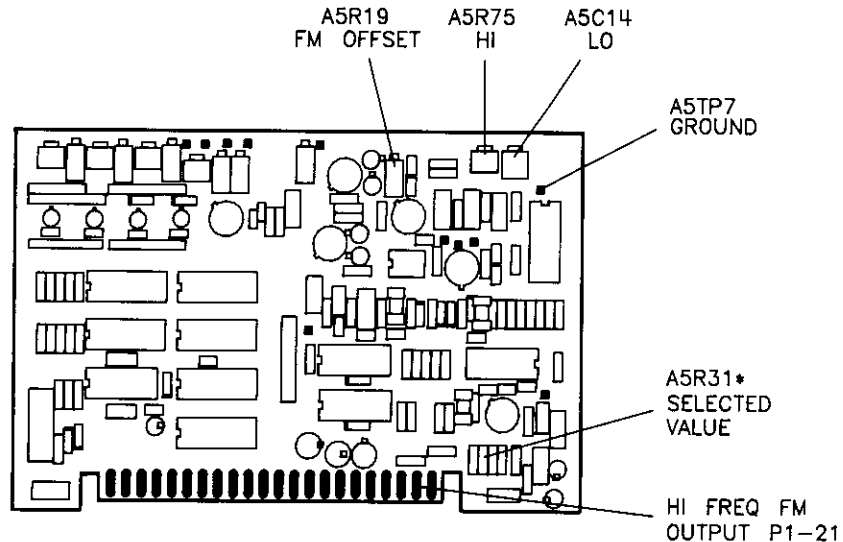

Figure 5-51. FM Driver Adjustment Location
3. Turn the HP 8350 AC power on and connect DVM HI to A5 board connector pin 21 and DVM LO to A5TP7 (Ground). Adjust A5R19 (FM OFFSET) for  $0.00 \pm 0.0001V$ . Refer to Figure 5-51.
12. Sweep the function generator frequency from 100 Hz to 100 kHz. Select resistor A5R31 (See Figure 5-51) so the amplitude at 100 Hz and at 100 kHz are the same  $\pm 0.2$  divisions on the screen.